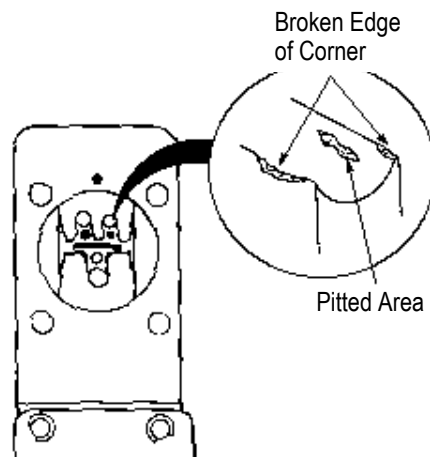

Figure 4
2. Inspect head assembly for worn, cracked, or broken jaws. See Figure 4. If damage is evident, return the tool to TE for evaluation and repair. See Section 6, REPLACEMENT AND REPAIR.